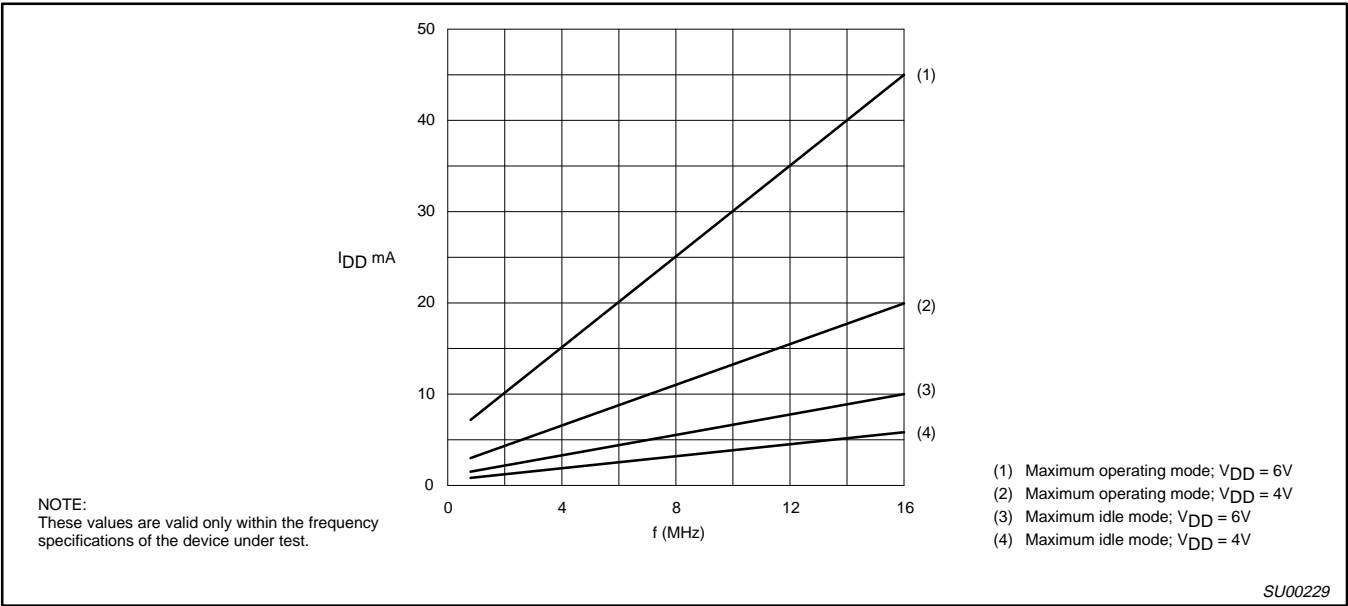

Figure 8. Supply Current ( $I_{DD}$ ) as a Function of Frequency at XTAL1 ( $f_{osc}$ )
- See Figures 8 through 12 for IDD test conditions.